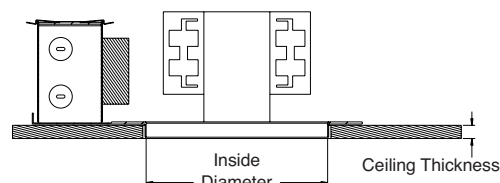

Figure 2
Rough-in section compatibility can be determined by measuring the rough-in section as shown in Figure 2.
Step 1. Determine which friction clip to utilize. Two styles of mounting friction clips ("A" & "B", 3 each) have been provided for different retrofit aperture ranges. This is to ensure best fixture retention when installing reflector trim assembly. When utilizing provided mounting friction clips, please refer to Figure 5 for proper friction clip aperture inside diameter range. Aperture inside diameter can be determined by measuring rough-in section as shown in Figure 2 on previous page.